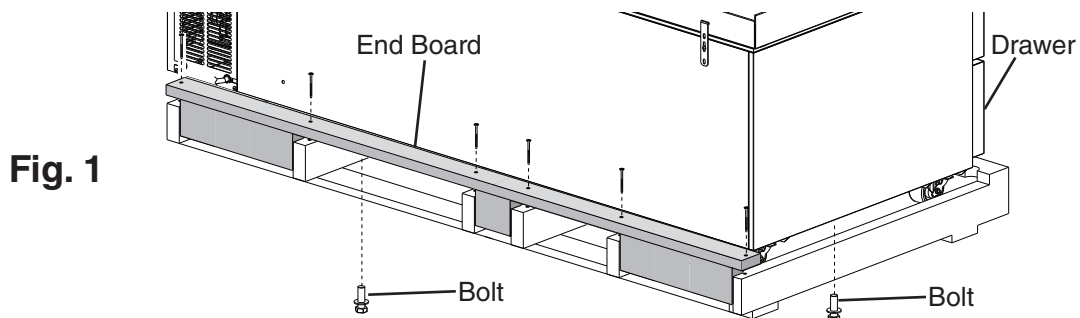

Fig. 1
- 2) Remove the pallet end board. See Fig. 1.